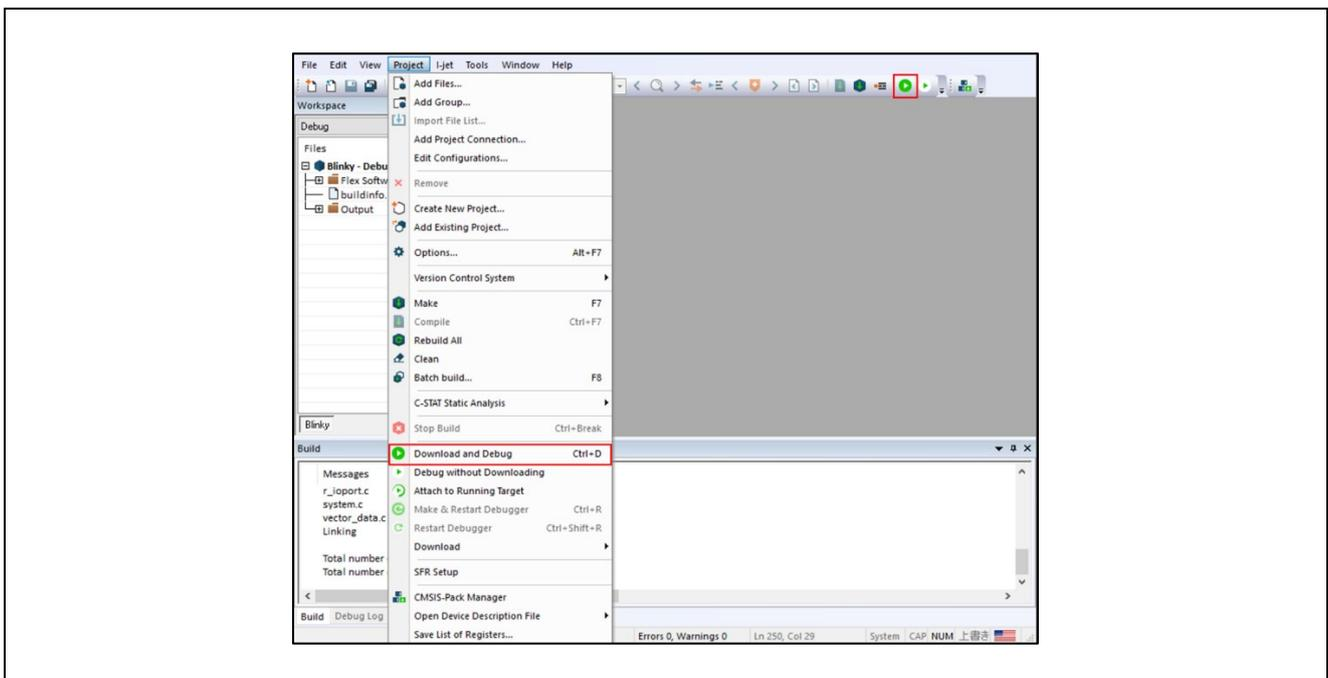

Figure 79. Download and Debug Button
3. Download of the primary project with procedure 5.3.4 Download & Debug the Project as shown in Figure 79.